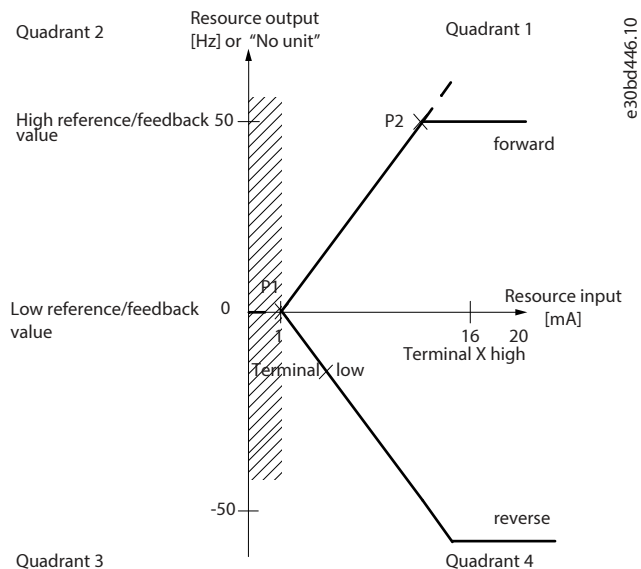

Figure 22: Size of Dead Band
- Set either the minimum reference value or maximum reference value at 0. In other words, either P1 or P2 must be on the X-axis in Figure 22.
P1 or P2 defines the size of the dead band as shown in Figure 22.